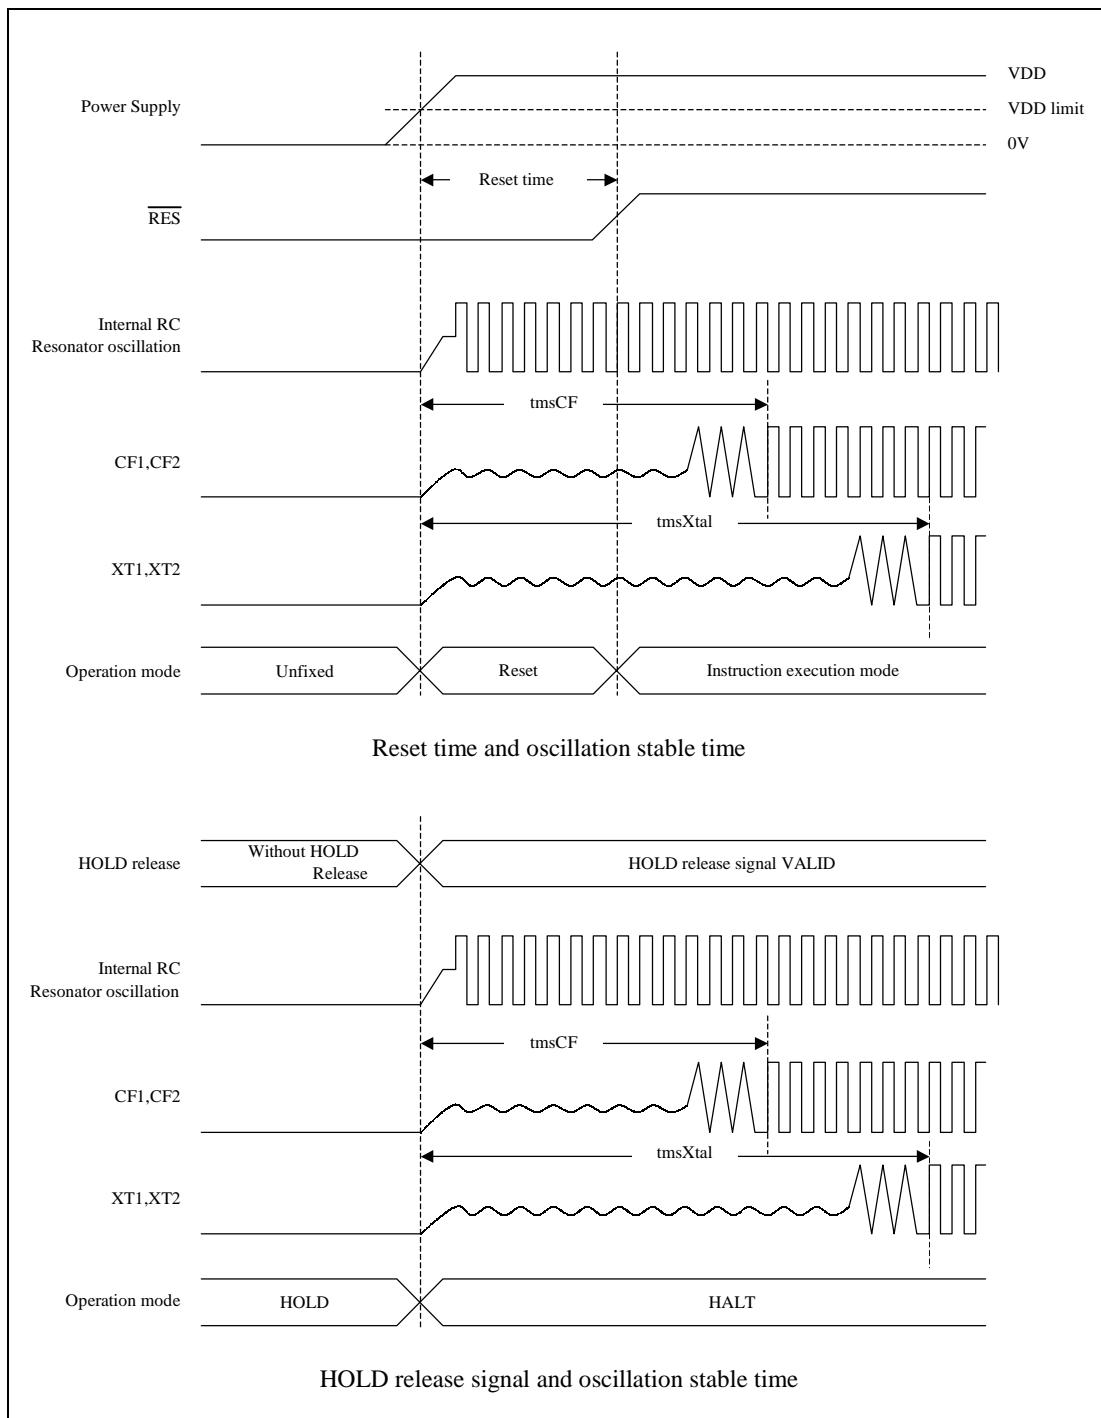

Figure 4 Oscillation stabilization time
*The oscillation stabilizing time is a period until the oscillation becomes stable after VDD becomes higher than minimum operating voltage. (Refer to Figure4)
*The oscillation stabilizing time is a period until the oscillation becomes stable after executing the instruction which starts the sub-clock oscillation or after releasing the HOLD mode. (Refer to Figure4)